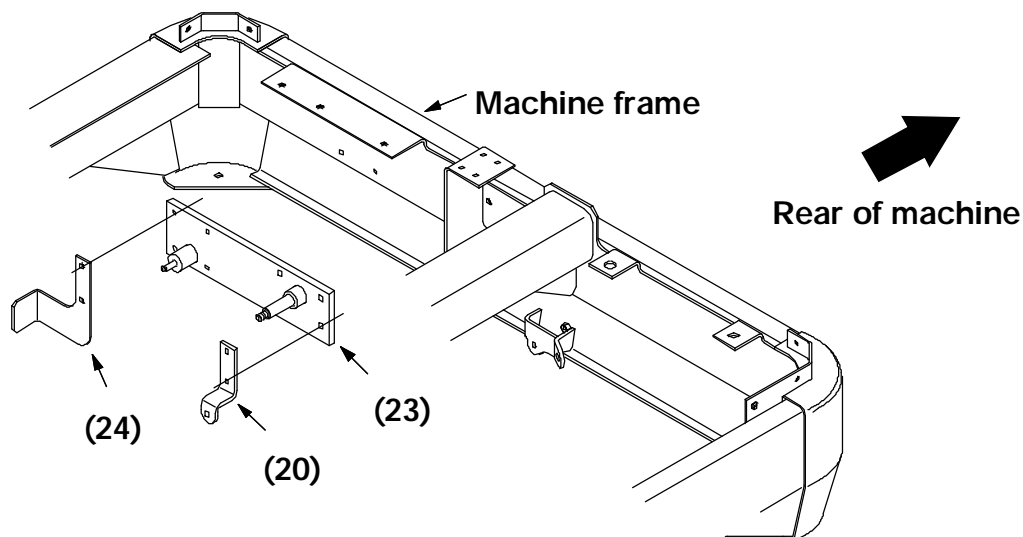

FIG. 2 – Pin Weldment
(Refer to Fig. 2, 3, 4, 5, 6, and 7)
1. Install the new pin weldment (23) on the machine. Use four of the six hex screws (21) and belleville washers (22) that are included in this kit. Do not install any hardware in the two holes in the far left or the far right of the new pin weldment (23). Leave this hardware loose. (Refer to Fig. 2 and 5)
2. Install the new spring bracket (24) on top of the new pin weldment (23). This bracket is positioned to the outside of the lift cylinder mount pin. Use two hex screws (21) and belleville washers (22) from this kit. This hardware is installed in the two holes on the outside of the new pin weldment (23). The angle on the spring bracket (24) faces **down**. (Refer to Fig. 2 and 3)
3. Install the new upper lift cable bracket (20) on top of the new pin weldment (23). This bracket is positioned to the right of the bellcrank assembly mount pin (toward the center of the machine). Use the two remaining hex screws (21) and belleville washers (22). This hardware is installed in the two holes nearest the center of the machine, on the far right of the new pin weldment (23). (Refer to Fig. 2 and 6)
4. All eight hex screws holding the new pin weldment (23) to the machine frame can now be tightened to 18 – 24 Nm (15 – 20 ft lb). (Refer to Fig. 2 and 5)